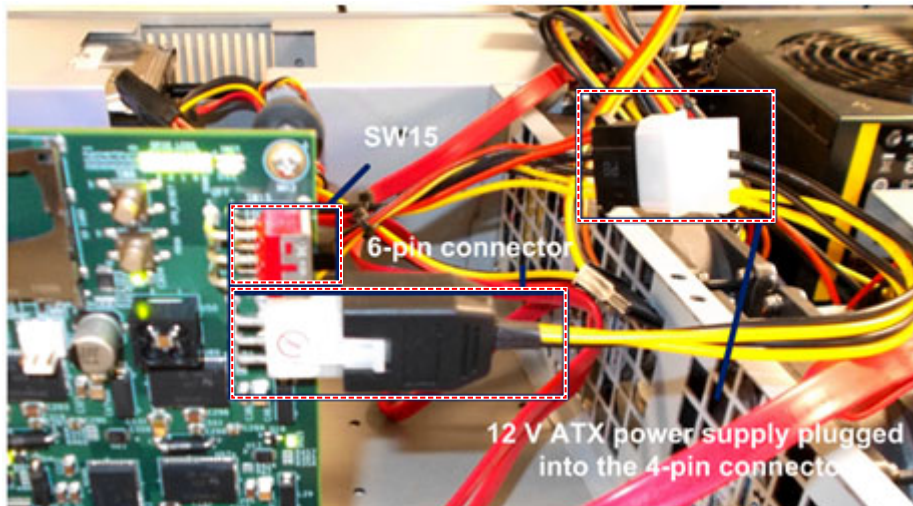

Figure 2-4: ATX Power Supply Connection Using Adapter Cable
6. Connect the ATX power supply to the AC701 board using the ATX power supply adapter cable (Figure 2-2) as shown in Figure 2-4.